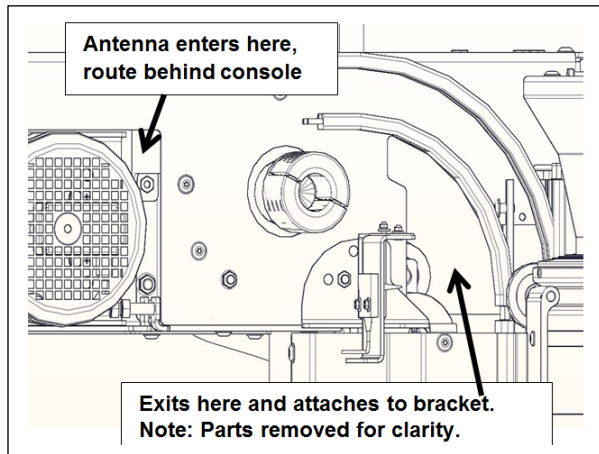

Figure 92
8. Route the antenna and cable through the head assembly and exit near the old antenna cable. (See Figure 92.)